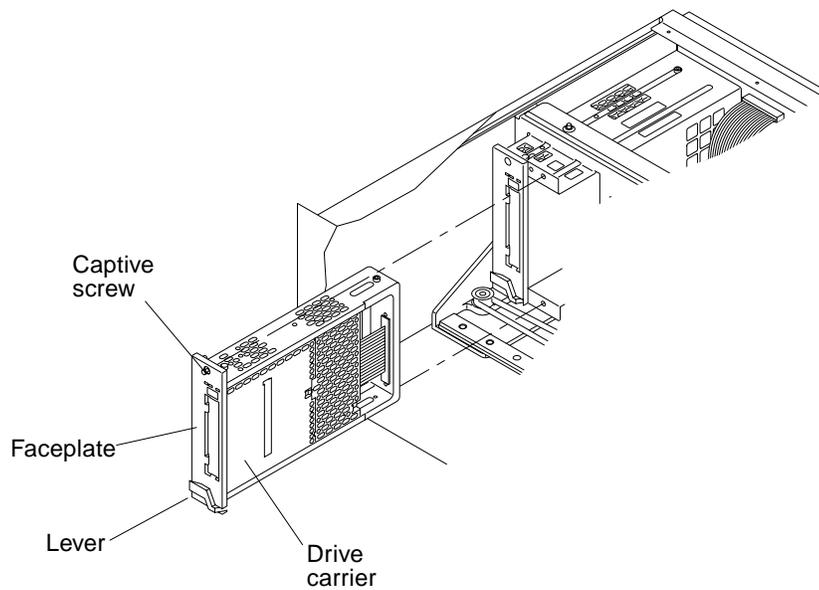

FIGURE 5-2 Screws on the Drive Carrier Faceplate
5. Loosen the two captive screws on the drive carrier faceplate (FIGURE 5-2).